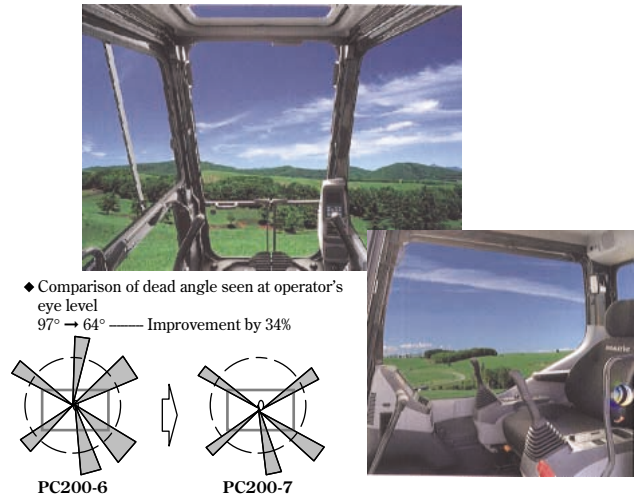

Fig. 14 Securing Better Visibility
- (2) The strengthened frame structure of the operator's cab has been reviewed with an aim of obtaining good visibility in mind. As a result, it was decided to change the section form of the frame instead of opting for a larger size, to dispose of a pillar on the center right and to configure a rear pillar so that it will not block the rear view. These efforts resulted in a 34% decrease in the dead angle due to pillars seen at an operator's eye level. (See Fig. 14)